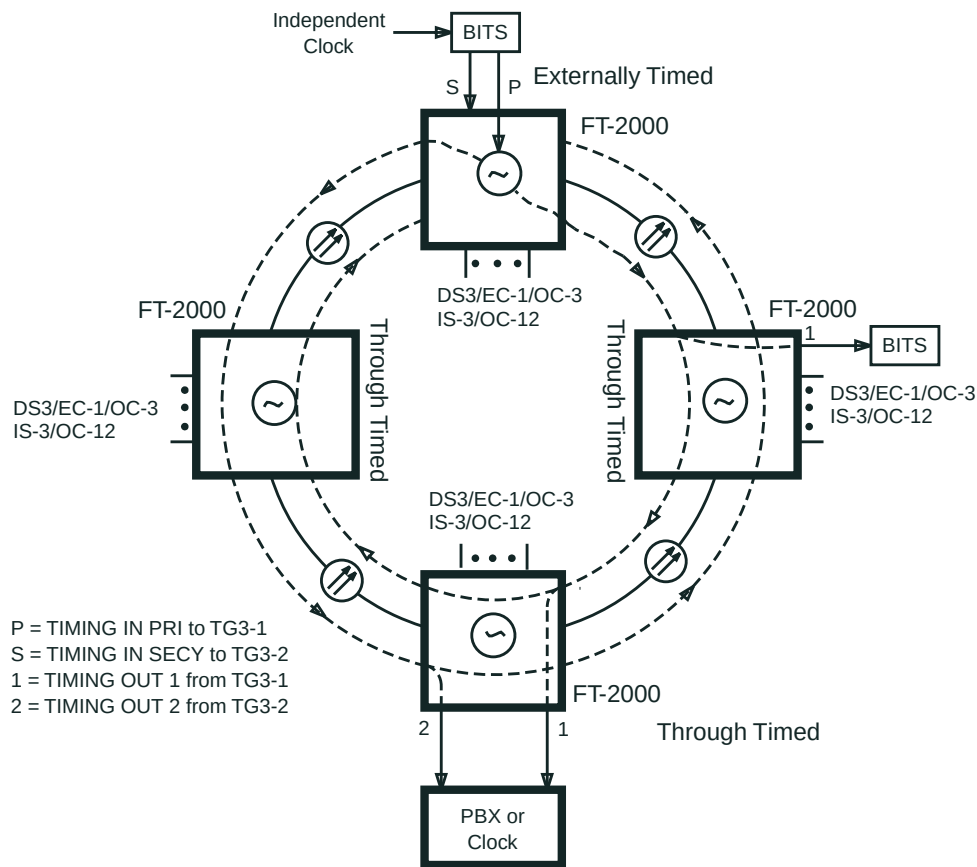

Figure 5-22. Example of a Ring Application with One Node Provisioned Externally Timed and All Other Nodes Provisioned Through Timed (with Timing Drops)
- **One node provisioned externally timed; all other nodes provisioned through timed or externally timed:** In this configuration (Figure 5-22 and Figure 5-23), at least one node should be provisioned externally timed, and any nodes that drop timing signals should be provisioned through timed. All other nodes should be provisioned externally timed or through timed.